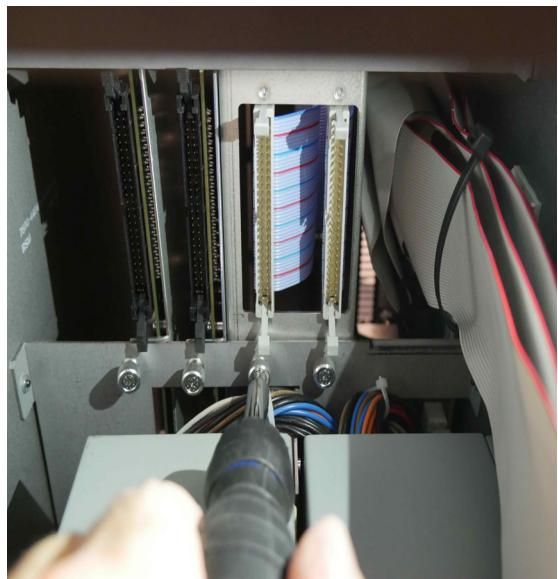

Figure 7. Securing a card to a Stage 64 chassis (shown at left) and a Stage 32 (shown at right)
- From the back of the Stage IO unit, remove the captive thumbscrew(s) securing each card to the chassis (see Figure 7).